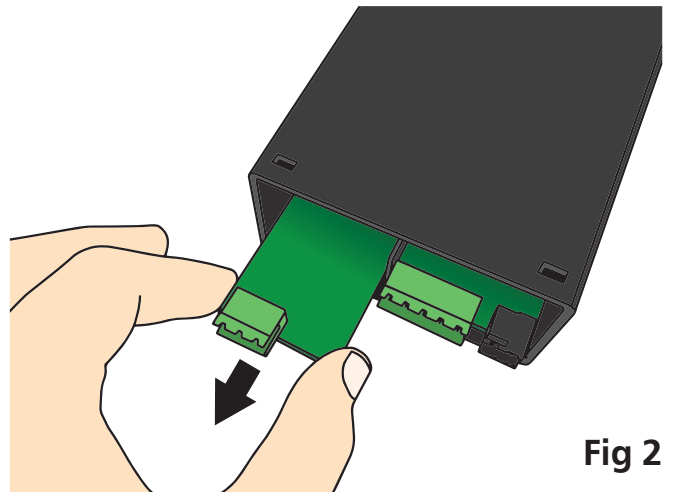

Fig 2
- E** Slide the analog input module out of the meter case (Fig 2). (See 3.1D to identify the input module.)